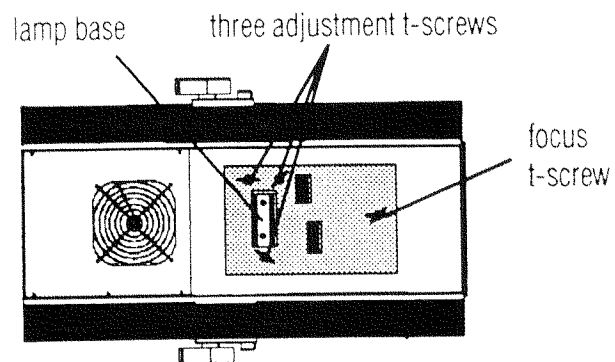

Figure 2.18 Emulator Fixture: Underside with Bottom door removed
18. Locate the *focus t-screw* on the underside of the fixture towards the front of the unit. (See Fig. 2.18)
On a fixture which uses Software Version 3.32 or later, turning switch number four on causes the fixture to produce a horizontal mirror image of the normal scan patterns. For example, if you are programming a fixture to display an alphanumeric pattern, in this case, an 'R', turning on DIP switch number 4 will cause the pattern to display this pattern's horizontal mirror image. (See Fig. 2.18) Some patterns, such as a circle, will not be affected by turning on switch number four.